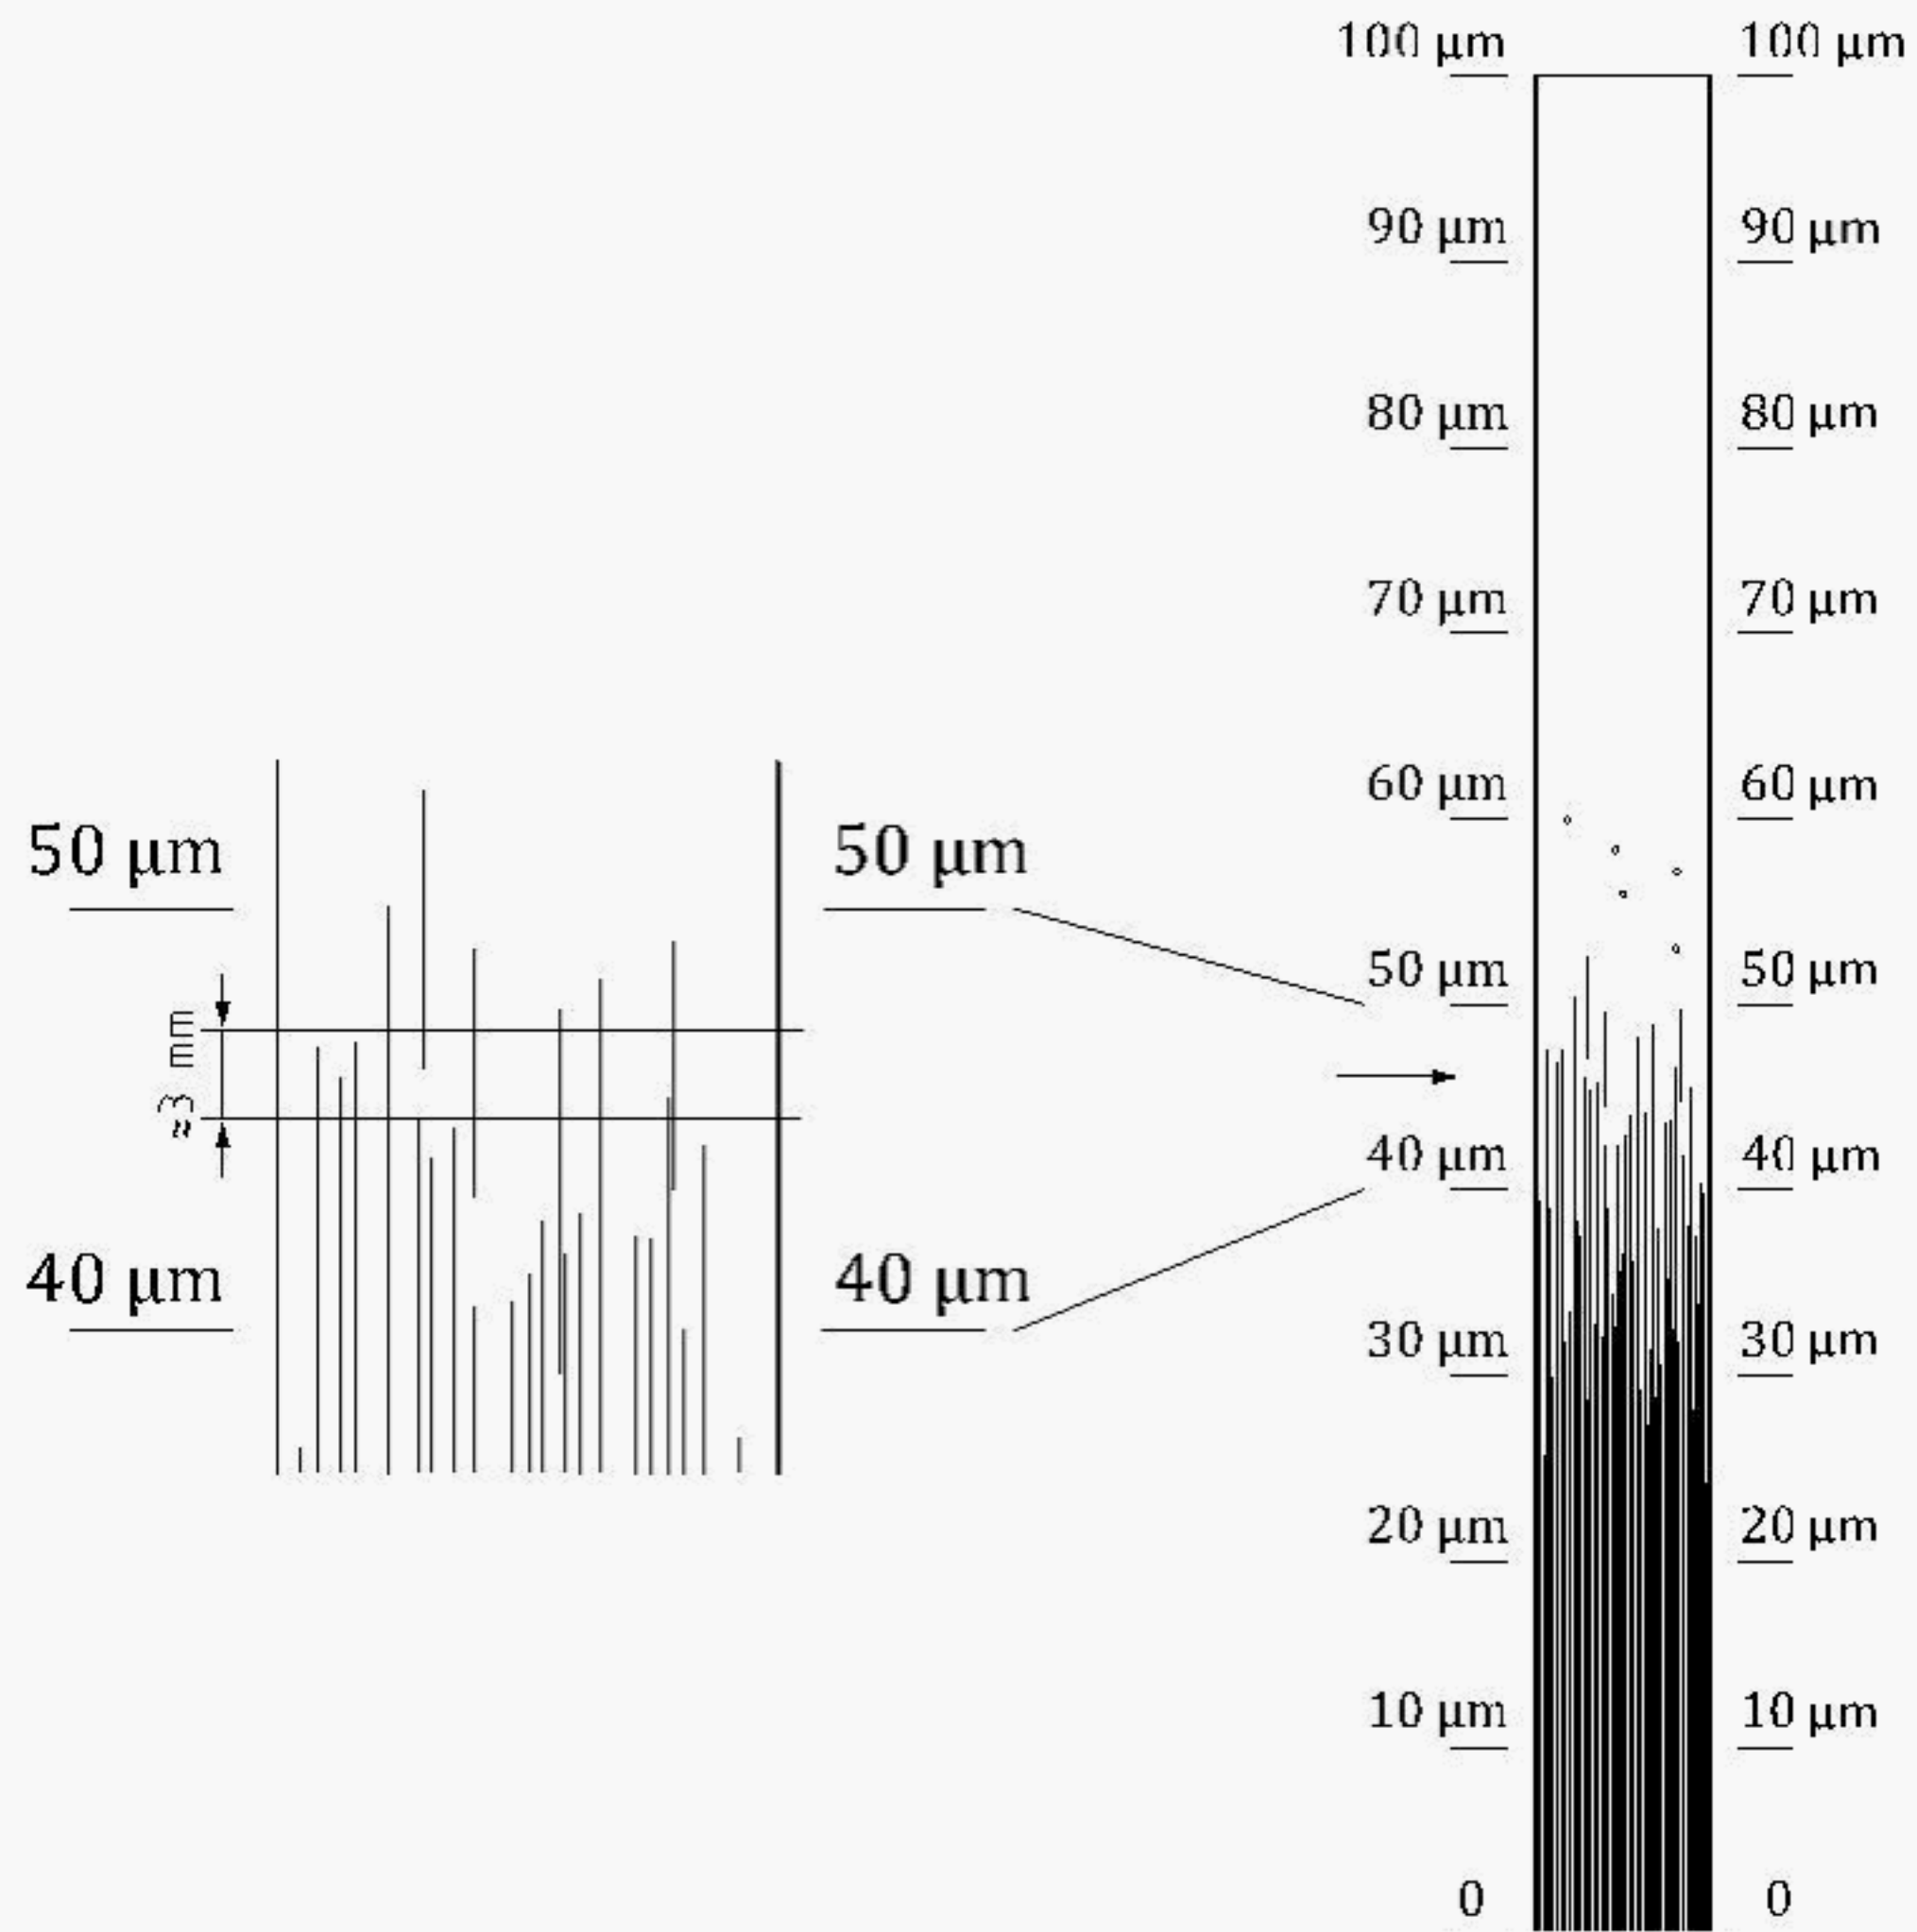

Figure 3 — Examples of a gauge reading 45 µm
- a second example of a gauge reading has been added in Figure 3;